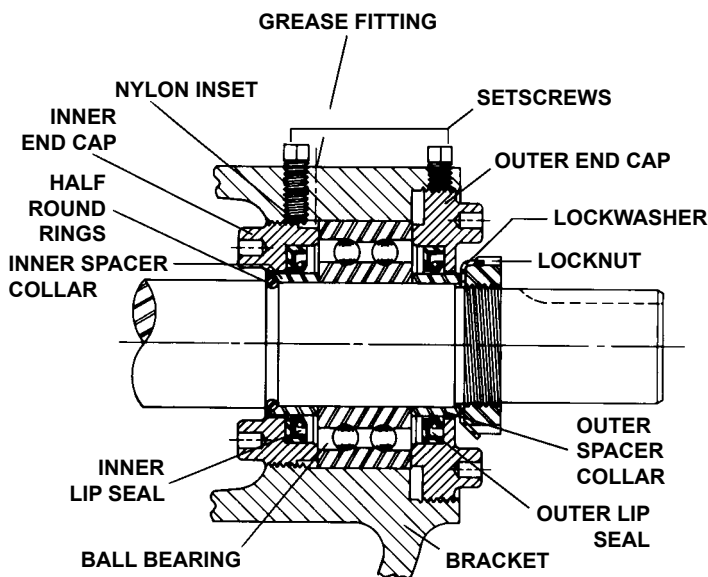

FIGURE 10
- Slide the inner bearing spacer collar over the shaft with recessed end toward rotor. **NOTE:** The pair of half round rings must be inserted in the groove in the shaft and then slide the spacer collar over them. See Figure 10 (not used on Q and M size pumps).
- Press the lip seal (lip toward end of shaft) into the inner end cap and insert the end cap through the shaft end of the bracket. With two fingers turn it clockwise (looking at end of shaft) until it engages the threads. The bosses on the end cap must be toward the rotor. Turn the end cap until it projects slightly into the opening on the side of the bracket. **NOTE:** The end cap must not be turned so far that the lip of the lip seal drops off the end of the spacer collar on the shaft or the end cap becomes disengaged with the threads. See Figure 10.
- Install the lip seal (lip toward end of shaft) and bearing spacer in the outer end cap and turn the end cap into the bracket until tight against the bearing. See Figure 10.
See Figure 10.